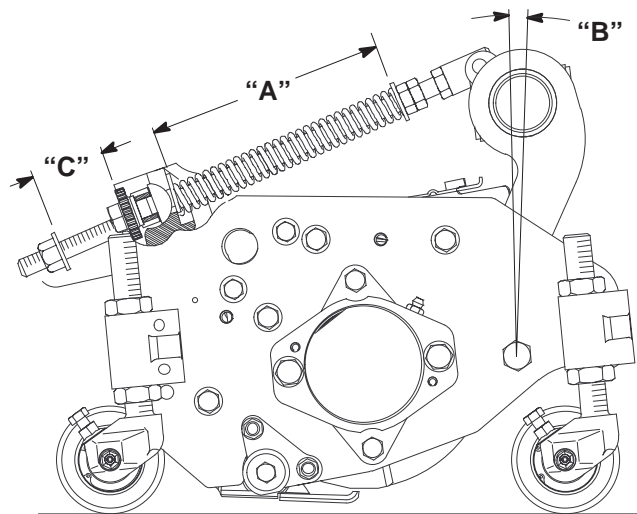

Figure 14
The Turf Compensation Spring (Fig. 14), connecting carrier frame to cutting unit, controls the amount of fore-aft rotation available, as well as the amount of ground clearance in transport and turn around.
1. Tighten lock nut on rear of spring rod until the gap (C) between rear of spring bracket and front of washer is 1" (26 mm) (Fig. 14).
2. Tighten hex nuts on front end of spring rod until the compressed length (A) of spring is 8" (203 mm) (Fig. 14).
Note: When cutting rough or undulating turf, increase compressed length (A) of spring to 8-1/2" (216 mm) and gap (C) between rear of spring bracket and front of washer to 1-1/2" (39 mm) (Fig. 14).